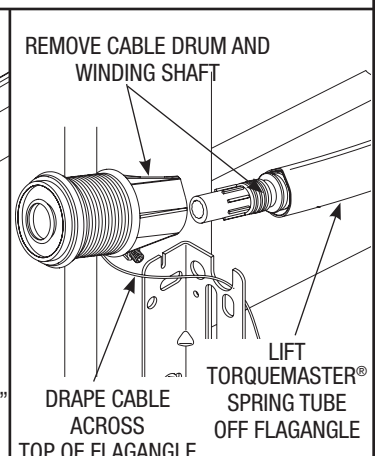

Fig. 9
**Step 9:** Lift the right hand side of the TorqueMaster® Spring Tube and slide the cable drum off. Realign the groove in the winding shaft with the radial notch in the flagangle and drape the counterbalance cable with drum over the flagangle. Lift the left hand side of the TorqueMaster® Spring Tube and slide the cable drum and winding shaft off (Fig. 9). Drape the counterbalance cable with drum over the flagangle. Lift the TorqueMaster® spring assembly off the flagangles and out of the doorway. Unhook the counterbalance cables from the bottom brackets and remove all parts from the work area.